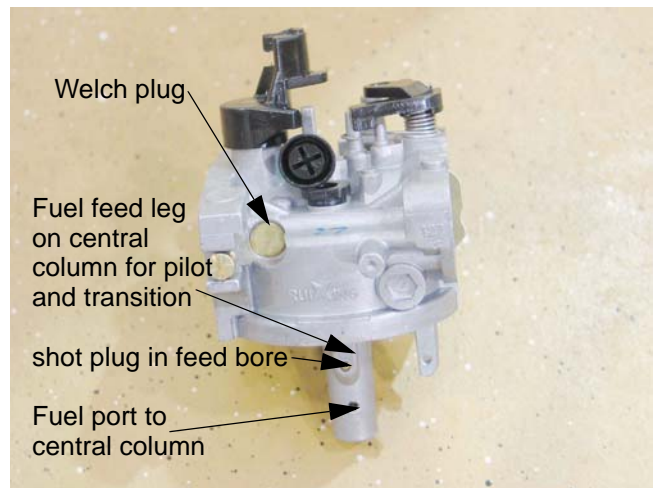

Figure 4.45
7. The throttle stop screw has a large pliable lip around the head of the screw. That lip secures a metering plug for the pilot and transition ports. Remove the screw to reach the plug. See Figure 4.45.